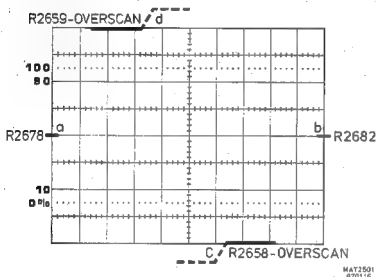

Figure 9.4 Service menu DISPLAY 7.
- Adjust the display to the situation such as given in figure 9.4.